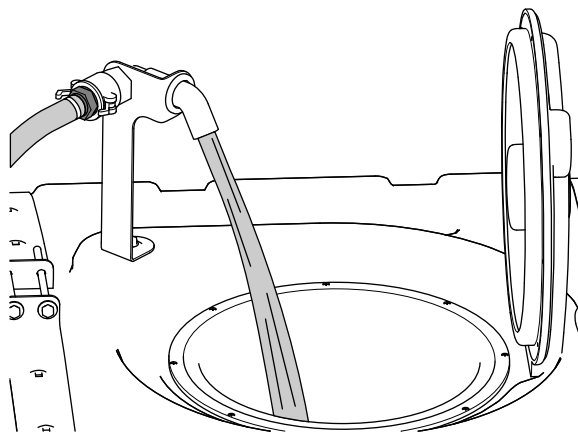

Figure 72
5. Add 3/4 of the required water to the spray tank (Figure 72).